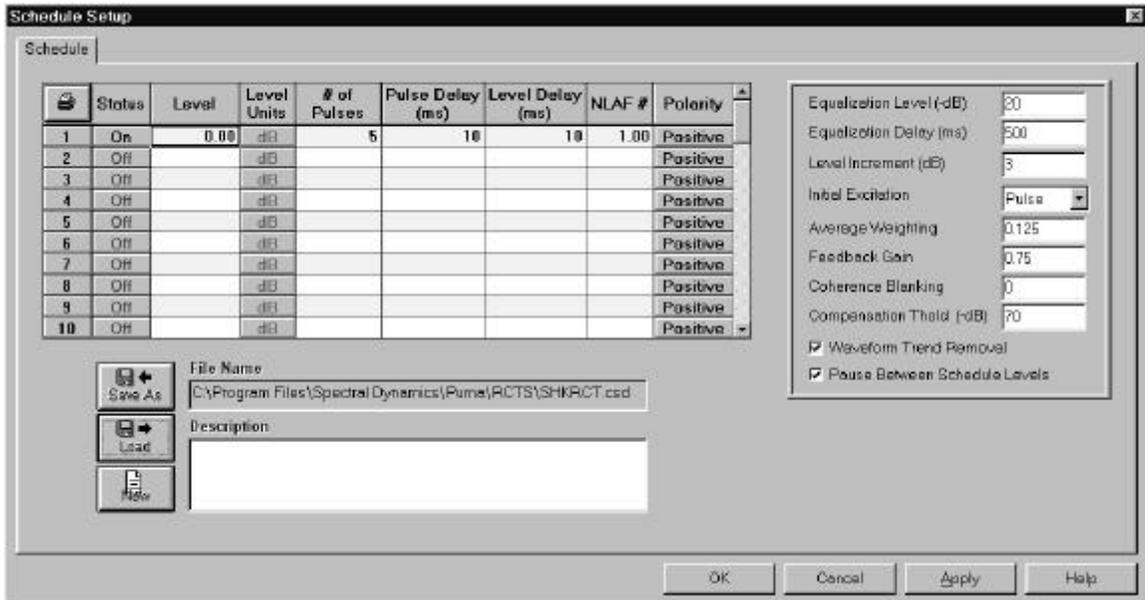

Figure 1-7. Shock Synthesis Schedule Setup Window
5. Click **SETUP** ⇒ **SCHEDULE** or the <Setup Schedules> Button . The Schedule Setup Window appears. See Figures 1-7.